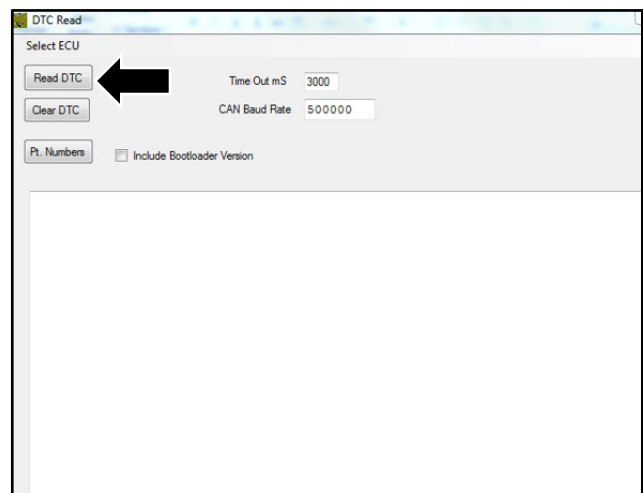

Figure 7
- In the "DTC Read" window, click the Read DTC button, (refer to Figure 7).